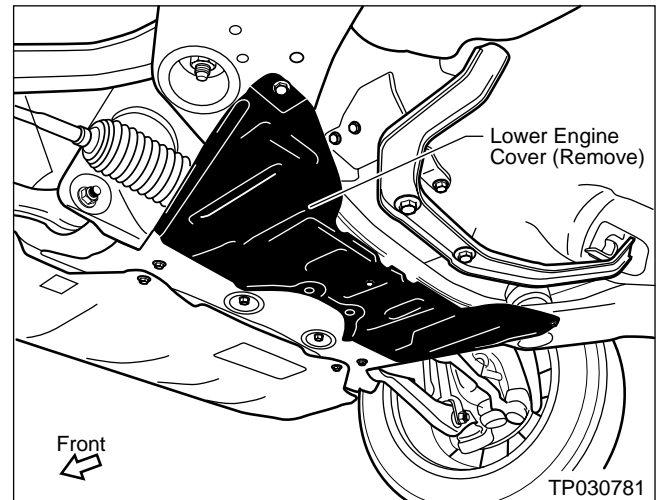

Figure 18
2. Remove the Lower Engine Cover (see Figure 18).